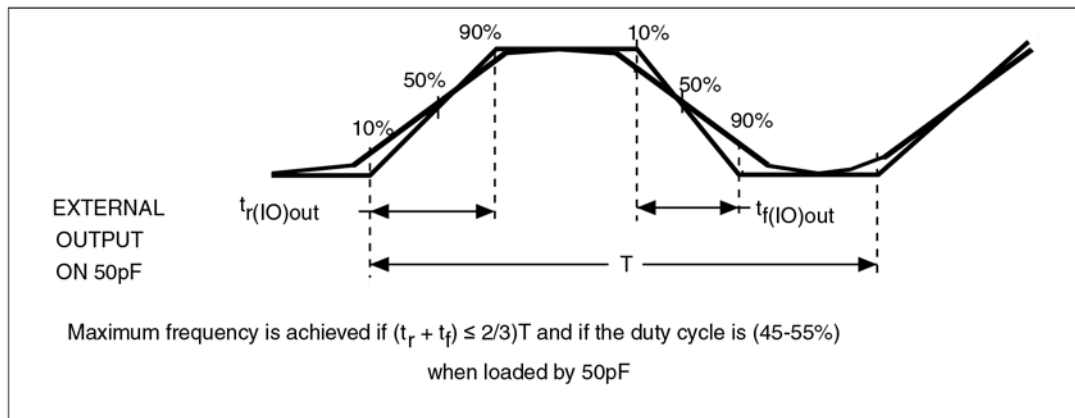

Figure 30. I/O AC characteristics definition
The definition and values of input/output AC characteristics are given in Figure 30 and Table 36, respectively.
2. The maximum frequency is defined in Figure 30.